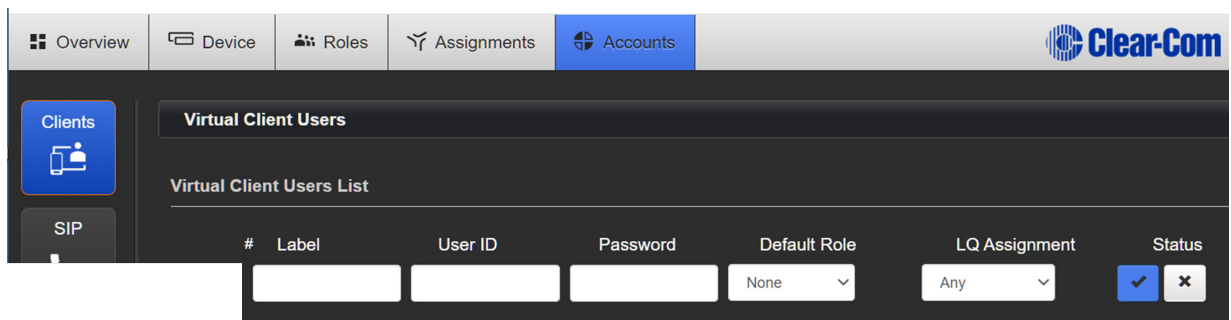

Fig. 34
EQUIP base station channels connect to LQ as Virtual clients (VC). To set up VC channels in LQ, create accounts for each channel that you want to be connected to the EQUIP base station, select the Accounts tab in LQ, and create a client user, see Fig. 34.